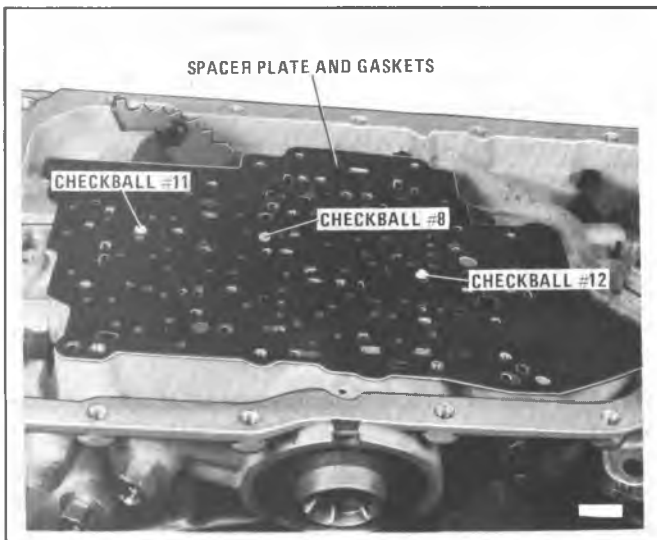

Figure 7A6-13 Location of Check Balls on Spacer Plate and Gasket
9. Remove 1-2 accumulator housing attaching bolts, accumulator housing, spring, gasket and plate (Figure 7A6-14).